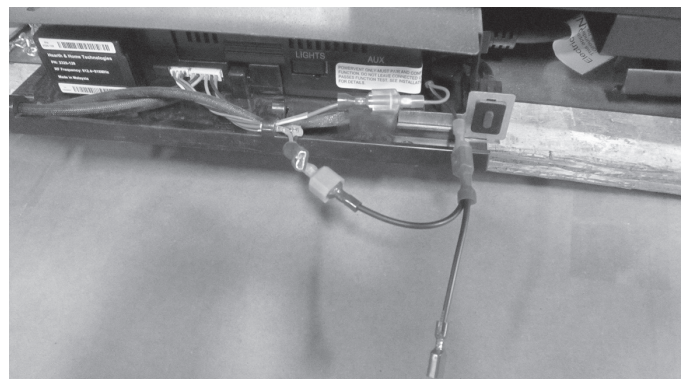

Figure 6.9
- Install the splitter (SRV2187-198) on the black wire coming off the 6 pin wire harness on the IFT control. Connect the splitter to the black wire going to the battery pack USB port. See Figure 6.9.